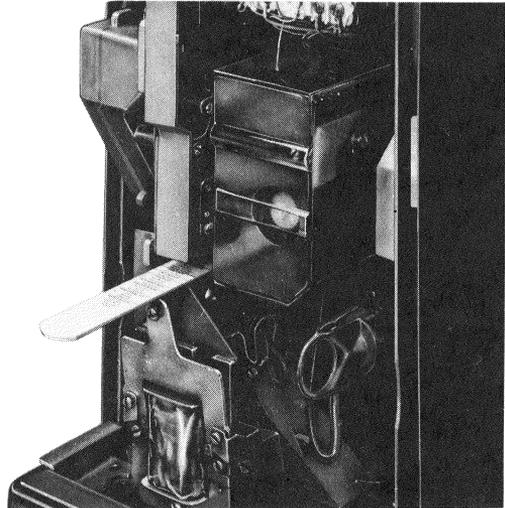

Fig. 2—KS-14995, List 3 Tool—In Position for Collect Test
- KS-14995, L3 tool—Placed between coin chute and hopper in single slot sets during Collect test to prevent collection of coins (Fig. 2)